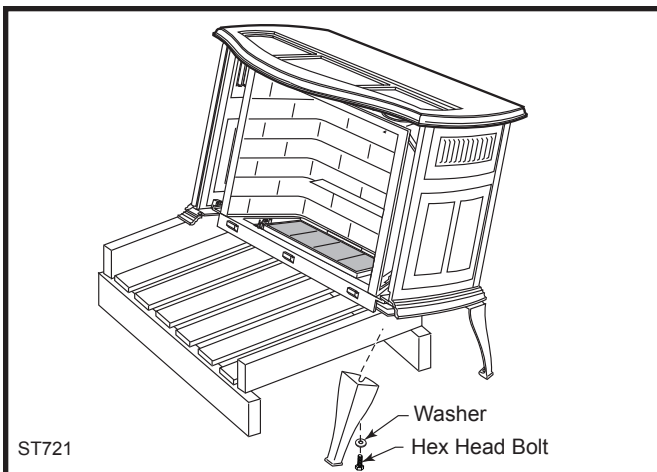

Fig. 7 Carefully tip stove onto back legs. Leave pallet under stove to keep stove from falling fully forward.
- Carefully tip the stove onto its rear legs. Adjust the pallet to allow access to one of the front leg holes. Be sure to leave the pallet under the stove to prevent the stove from falling fully forward. (Fig. 7)